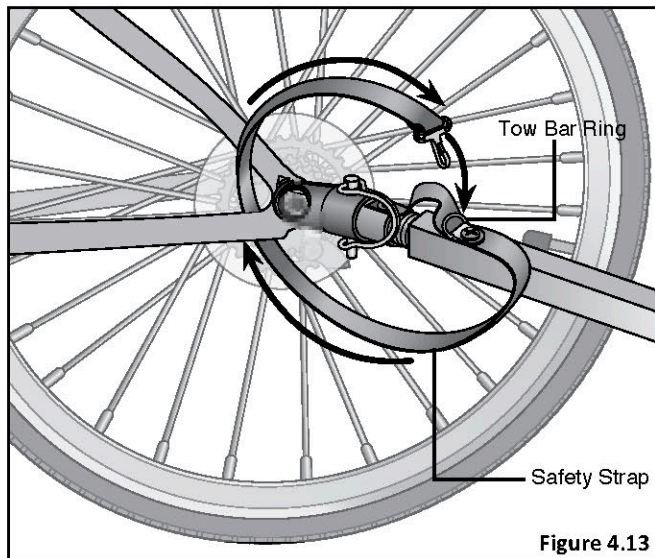

Figure 4.13
2. Clip the safety strap to the tow bar ring on the end of the towbar. Be sure the tow bar safety strap is securely attached before using the trailer. **Figure 4.13**